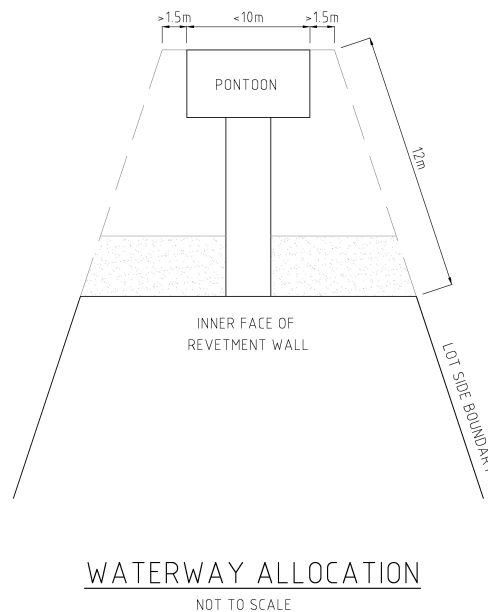

Figure 1 – Waterway Allocation
5. Pontoons are to be wholly located within the waterway allocation of the lot. The waterway allocation is illustrated in figure 1. The waterway allocation extends 12m from the revetment wall, measured as an extension of the lot's side boundaries. The outside edge of the pontoon is to be no less than 1.5m from the side boundary of the waterway allocation.